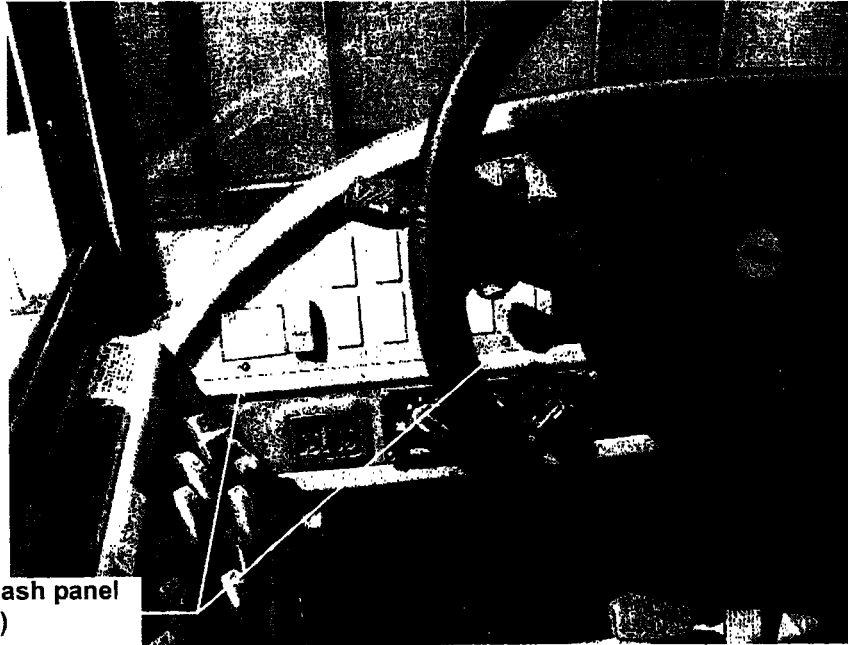

Figure 6
6. Remove screws securing dash panel. Retain screws to be reinstalled. **Figure 6**